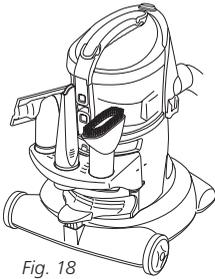

Fig. 18
- 2 Store the dusting brush, upholstery brush, the crevice tool or the power brush on the mounts on the removable tool caddy. (fig. 18)